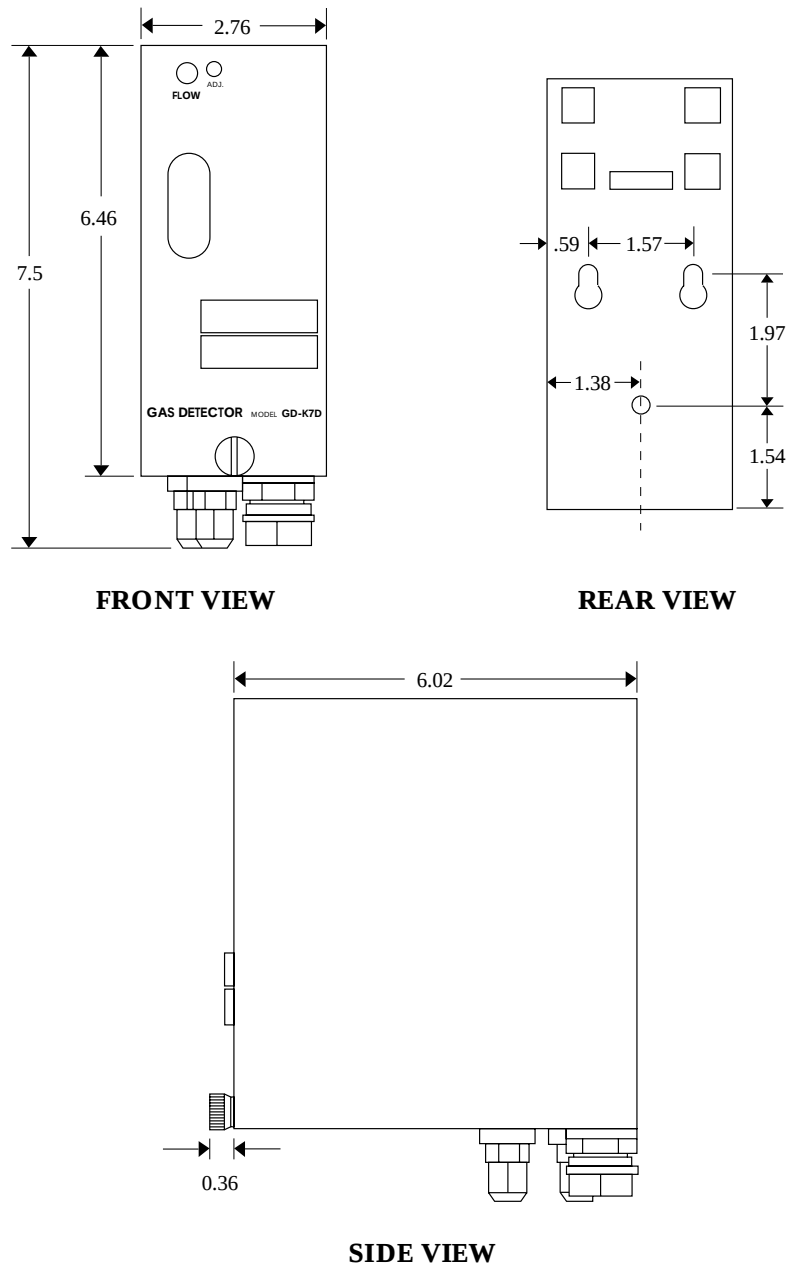

Figure 5: Mounting the GD-K7D2
2. Use three #10 screws through the three mounting holes in the installation bracket to mount the installation bracket to a vertical surface. One of the mounting holes is round and the other two are slotted (See Figure 5).